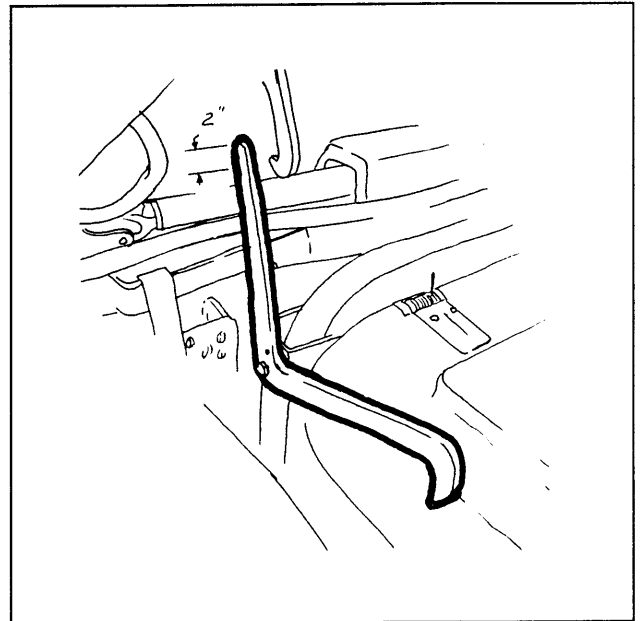

Figure 3
4. Take the wing-deck safety arms and remove the hand grips. Cut off the top 2" of the arms. Slide the grips back onto the arms, then reattach the arms to the unit. (see Figure 3)